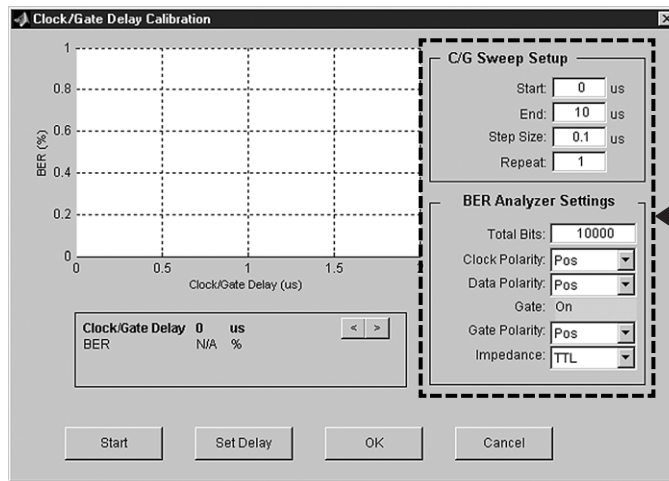

Figure 34. Clock/gate delay calibration utility setup.
5. Configure the automated clock/gate delay calibration utility, Figure 34. In this example, the clock/gate sweep end field is set to 10 us. Default values are used for the remaining configuration fields.